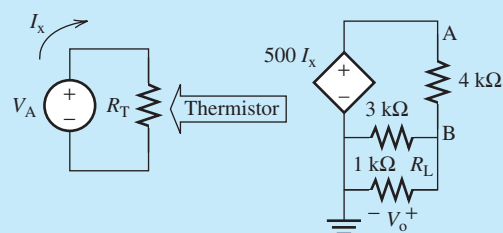

FIGURE 3.44 Circuit model for the controlled thermistor.
The thermistor is connected as shown in Figure 3.44. The output voltage, V_o , is measured to be $0.73\ \text{V}$. This is the voltage seen by the monitoring computer. The voltage, V_A , is used to convert the varying resistance of the thermistor to the varying current, I_x . This is isolated from the computer by the dependent source.
- Based on Figure 3.44, the output voltage is given, therefore, $V_o = V_B = 0.73\ \text{V}$. Now, using node voltage analysis applied to node B: